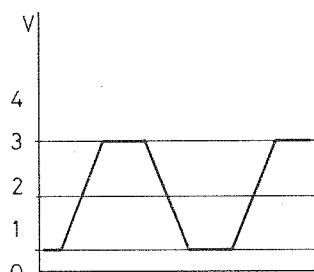
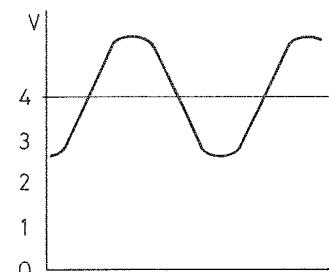

Fig. 6
Fig. 7
- 1) The voltage wave mode as shown in Fig. 6 appears on the output terminal of the Hall IC.
- 2) The wave (Fig. 6) is amplified by the transistor X105 and the bias voltage as shown in Fig. 7 is applied to the X106.